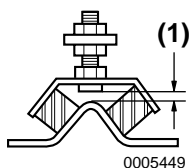

Figure 17
Replace if clearance is less than 1 mm (**Figure 17, (1)**). See your authorized Yanmar Marine dealer or distributor for procedure.